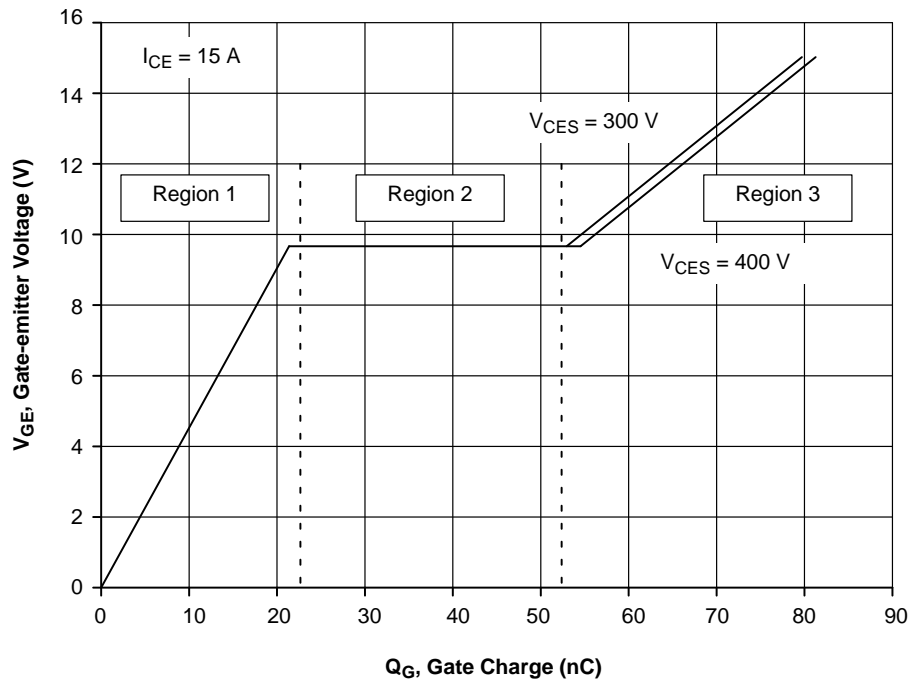

Figure 2. Gate Voltage vs. Gate Charge Characteristics (15 A, 600 V IGBT)
2. Gate charge considerations – In order to fully turn-on the device in high voltage application, both MOSFET and the IGBT drivers must supply voltage beyond the plateau voltage that is needed to overcome the equivalent of the Miller effect in the device (providing the  $Q_{GD}$  and  $Q_{GC}$  charge at a constant voltage to the MOSFET and IGBT, respectively). The plateau voltage is shown in Figure 2. As shown here, the typical IGBT has a higher plateau voltage (near 10 V) than a typical MOSFET (near 5 V). There is also a higher variability in the IGBT plateau voltage as a function of collector current. As a result, it makes sense to set the IGBT  $V_{GE}$  value higher than the typical FET  $V_{GS}$  value. However, in both cases, increasing the gate voltage beyond the plateau voltage increases the